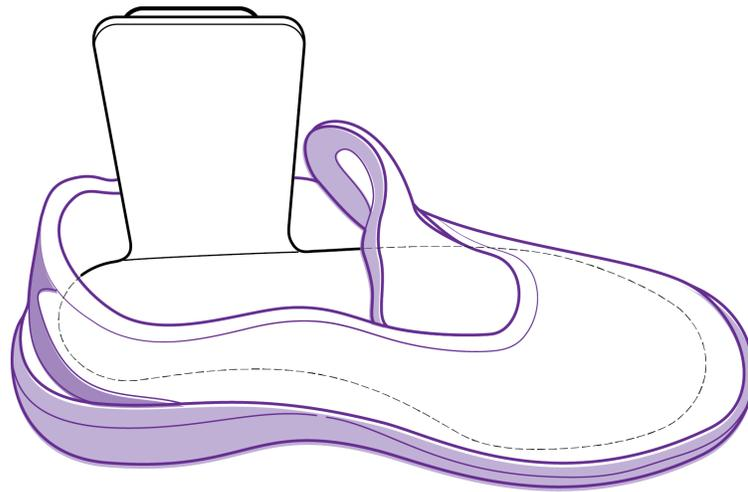

Figure 10. Footplate correctly inserted into shoe
- Remove the insole/sock liner from the shoes and insert the footplate into the footwear. (Figure 10)